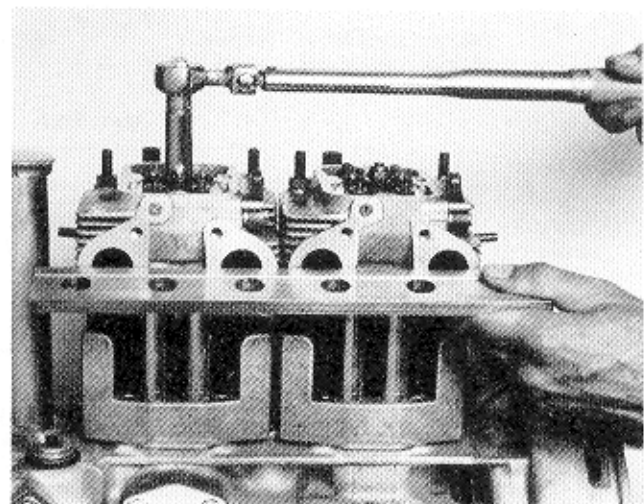

Figure 5.7 Checking the Manifold Alignment AC2 Engines
- (1) Fit a new cylinder head gasket.
- (2) Fit the cylinder head and push rod tubes using new seals.
- (3) Lightly lubricate the push rods and place in their noted positions.
- (4) Fit a new rocker support seal, the rocker support and rockers.
- (5) Locate the self-locking 5/16 in. UNF nut on the rocker support stud; fit the 5/16 in. UNF nuts and washers in the positions noted in Paragraph 5.3 (12) to the remaining four studs and screw down finger-tight. Tighten the self-locking nut sufficiently to just contact the rocker support ensuring that the support is level and touching the cylinder head.
- (6) With reference to Figure 5.2 tighten each nut a quarter of a turn at a time in the sequence shown. the nuts must be finally tightened to a torque loading 27Nm (20 lbf ft). On two cylinder engines, ensure that the manifold bolting faces are parallel with each other. Check with a straight edge before tightening down the cylinder head nuts as shown in Figure 5.7, or by bolting on a manifold.
- (7) After 20 hours running check the torque loading of the cylinder head nuts as detailed in Paragraph 5.13.